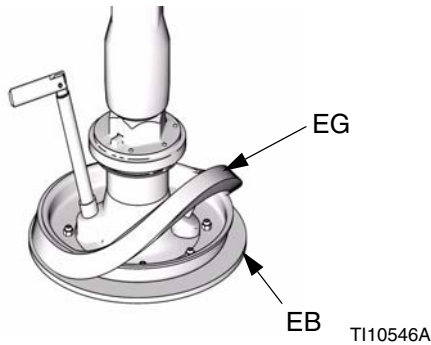

FIG. 12: Sliding spacer
2. By hand, angle spacer (EG) and work it off the plate, pulling it down over the flange and bottom wipers (EB). See FIG. 12.
3. Save spacer (EG), as it is required for other applications.
1. Ensure large diameter of spacer (EG) is facing **down**. Work spacer (EG) up over the platen by hand completely above the flange of the platen. See FIG. 12.